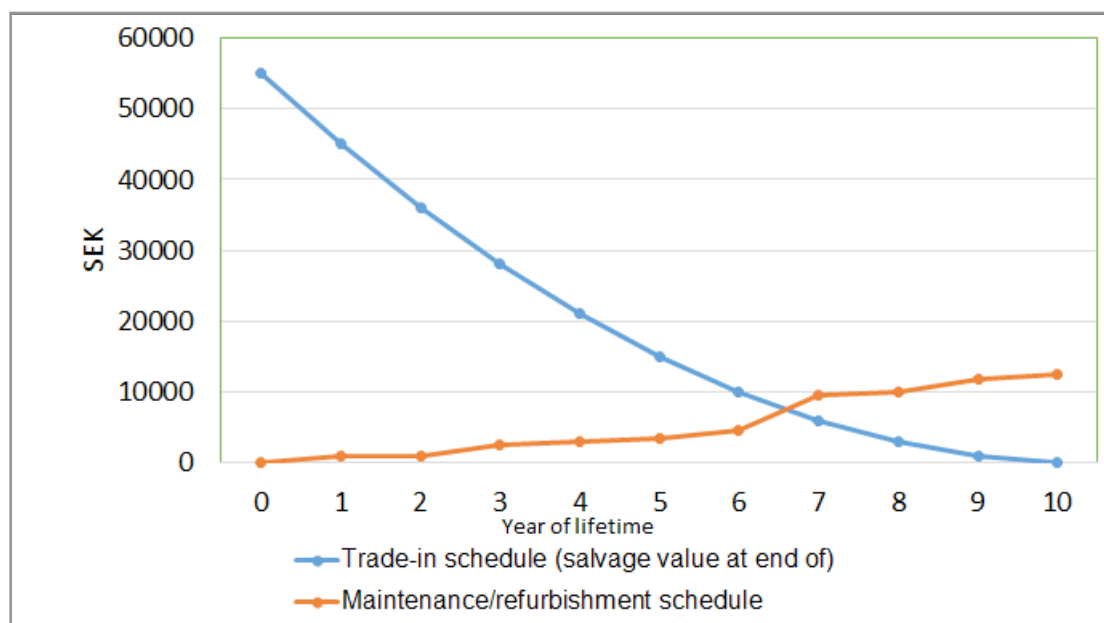

Figure 4-3: Drop in economic value and the rise in maintenance expenses over time
Capital cost is the loss in economic value suffered by the asset over its lifetime. As seen in Figure 4-3 (graphical representation of Table 4-1), the economic value decreases over time, implying that the capital cost gets accumulated as the asset gets older. What is meant by annualised capital cost in this case? It is simply the determination of the annuity (A), associated with the Single Present Worth (SPW) of the cumulative capital cost (total reduction in economic value of the asset with respect to the initial value in year-zero). Here, you get an opportunity to go back to Chapter 2, and use the SPW and UCR formulae in that order. Let us understand this more clearly with the aid of Table 4-1 and Figure 4-3.